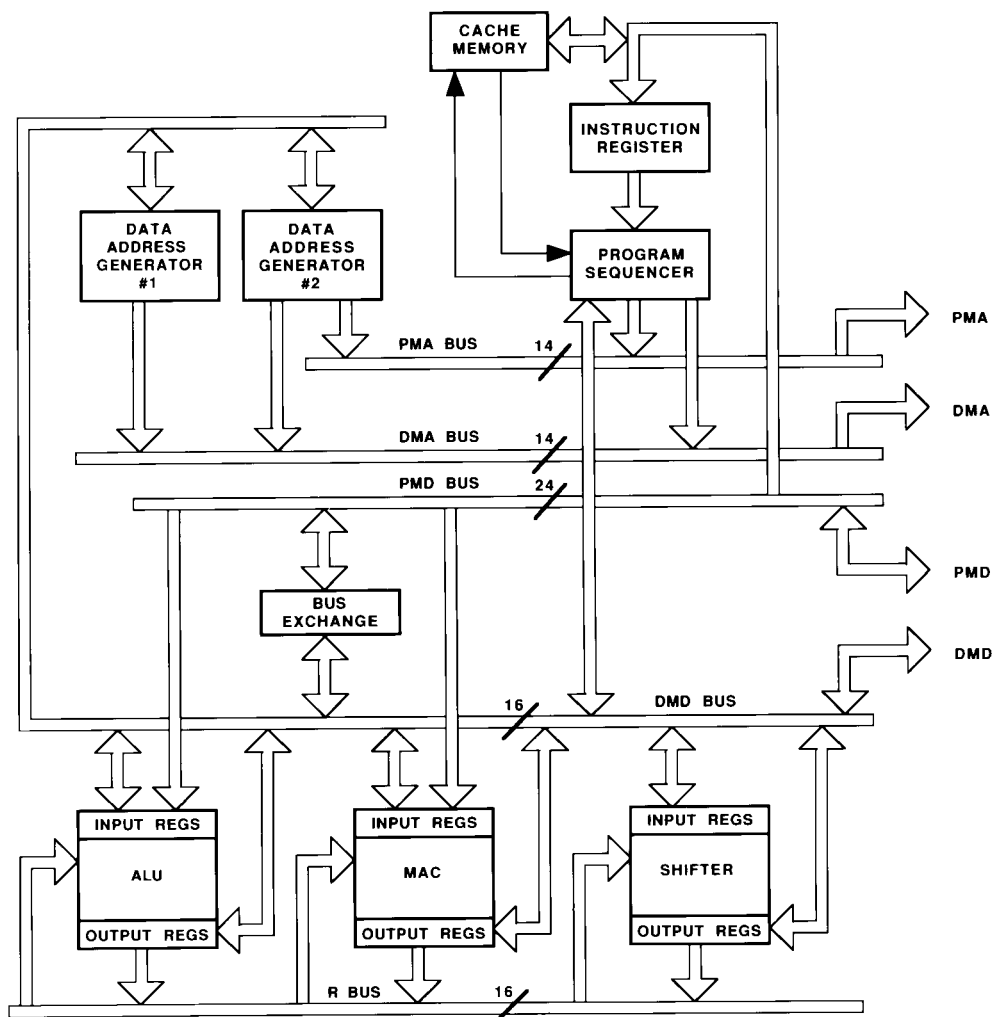

Figure 1. ADSP-2100 Block Diagram
Figure 1 is an overall block diagram of the ADSP-2100. The processor contains three independent computational units: the ALU, the multiplier/accumulator (MAC) and the Shifter. The computational units process 16-bit data directly and have provisions to support multiprecision computations. The ALU performs a standard set of arithmetic and logic operations; division primitives are also supported. The MAC performs single-cycle multiply, multiply/add and multiply/subtract operations. The Shifter performs logical and arithmetic shifts, normalization, denormalization and derive exponent operations. The Shifter can be used to efficiently implement any degree of numeric format control, up to and including full floating point representations. The computational units are arranged side-by-side instead of serially for flexible operation sequencing. The internal result (R) bus